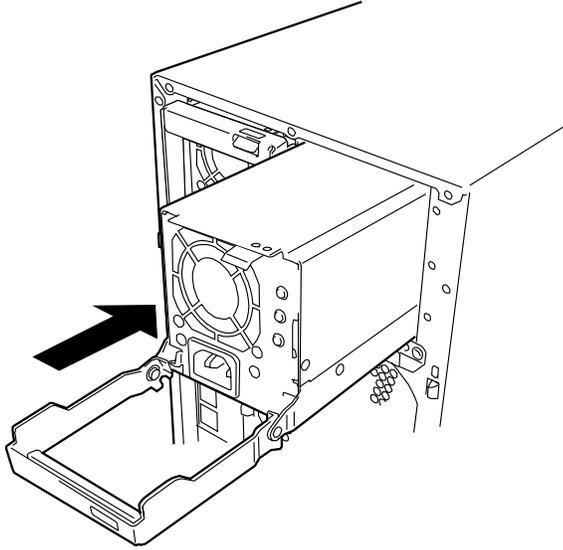

Figure 4-28. Installing the Power Supply
4. Slide the power supply into the vacant slot until you feel resistance. See Figure 4-28.